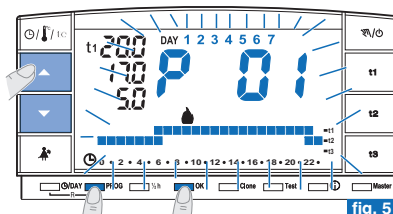

fig. 6
- The display will show: the current day, the room temperature and the 24-hr temperature range programmed with the current time digit blinking (example in fig. 6).